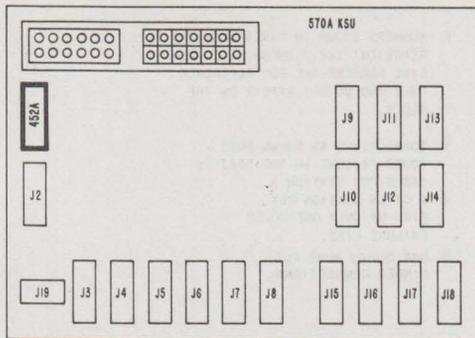

Fig. 42—Location of 452A KTU, Power Failure Transfer Relays
4.56 Install 452A KTU in J1. See Fig. 42 for KTU location.